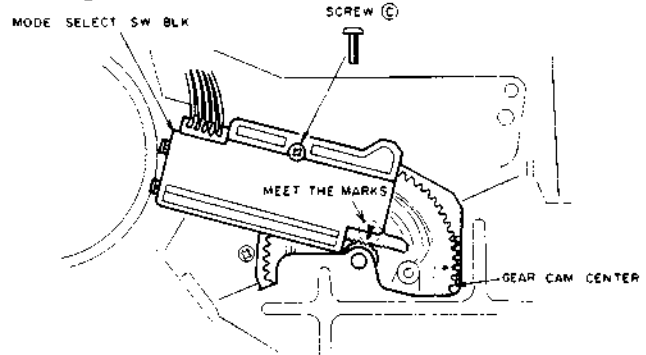

Fig. 4-14
- 10) Coincide the marks of MODE SELECT SW and attach the MODE SELECT SW BLK onto the LOADING MECHA BLK as shown in Fig. 4-14. Tighten the MODE SELECT SW BLK with a screw (C).